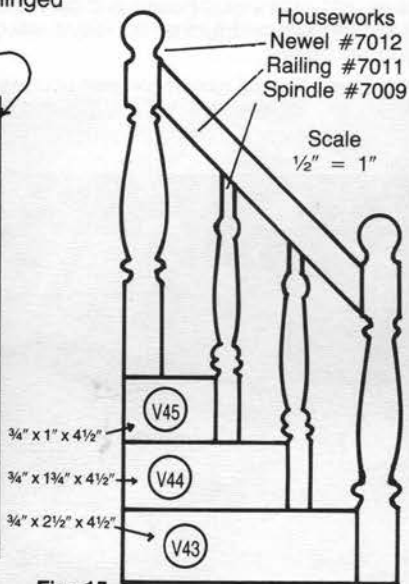

Fig. 15
**(FIGURE 15):** With the guard rail added it becomes the front stairway.